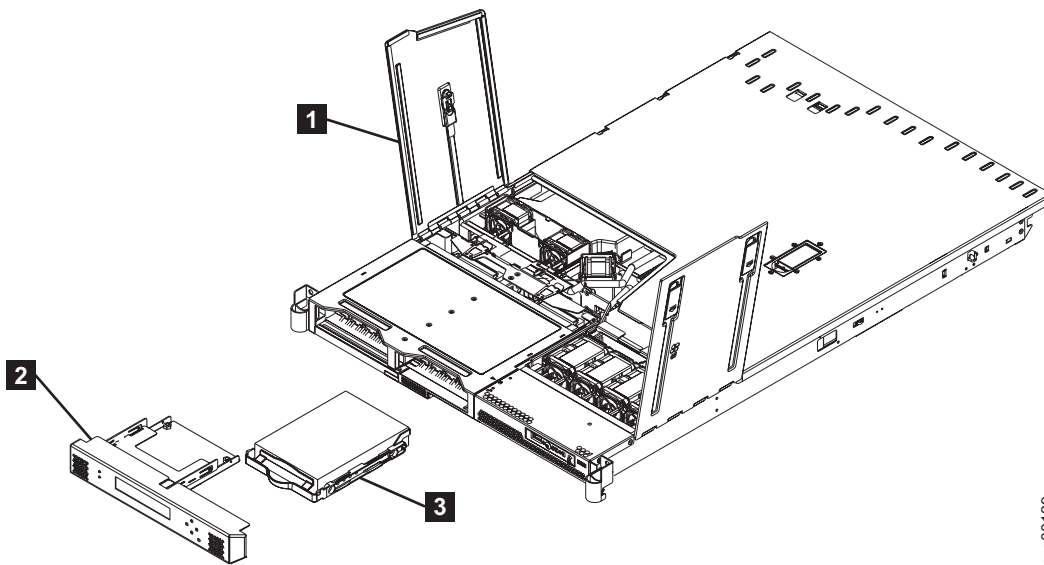

Figure 107. Removing the SATA disk drive
4. Open fan door A **1**. See Figure 107.